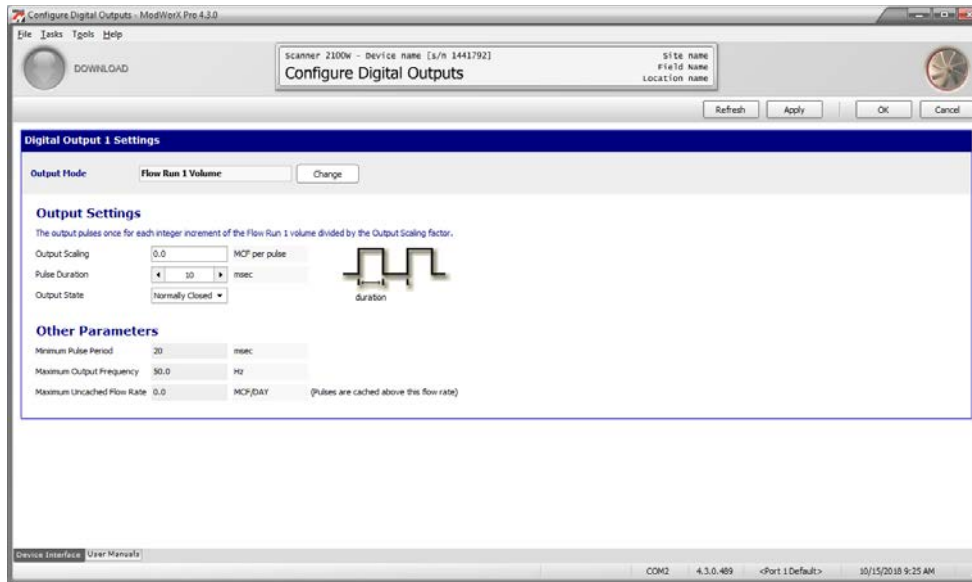

Figure 7.6
2. Click **OK** to save the setting and return to the Configure Digital Outputs screen (Figure 7.6, page 90).